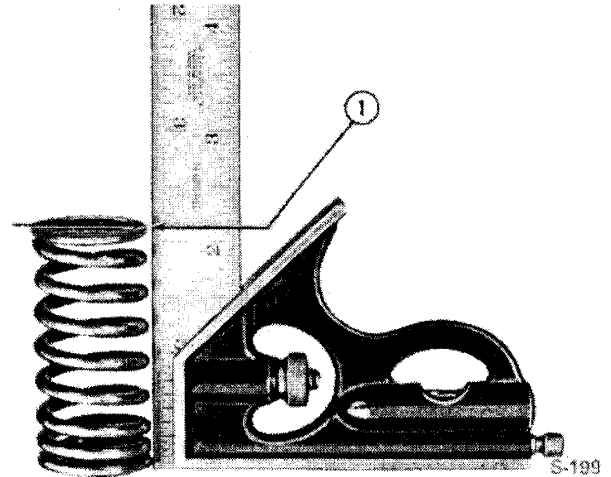

Figure 15
11. Replace worn or damaged valve springs. Check for squareness and reject if out-of-squareness exceeds 0.06 in. (1.5 mm). Figure 15. Check the free length and loaded length of each valve spring, see "Specifications," Chapter 3. Be sure the valve spring retainer locks are in good condition and the exhaust valve rotators are not binding or worn.